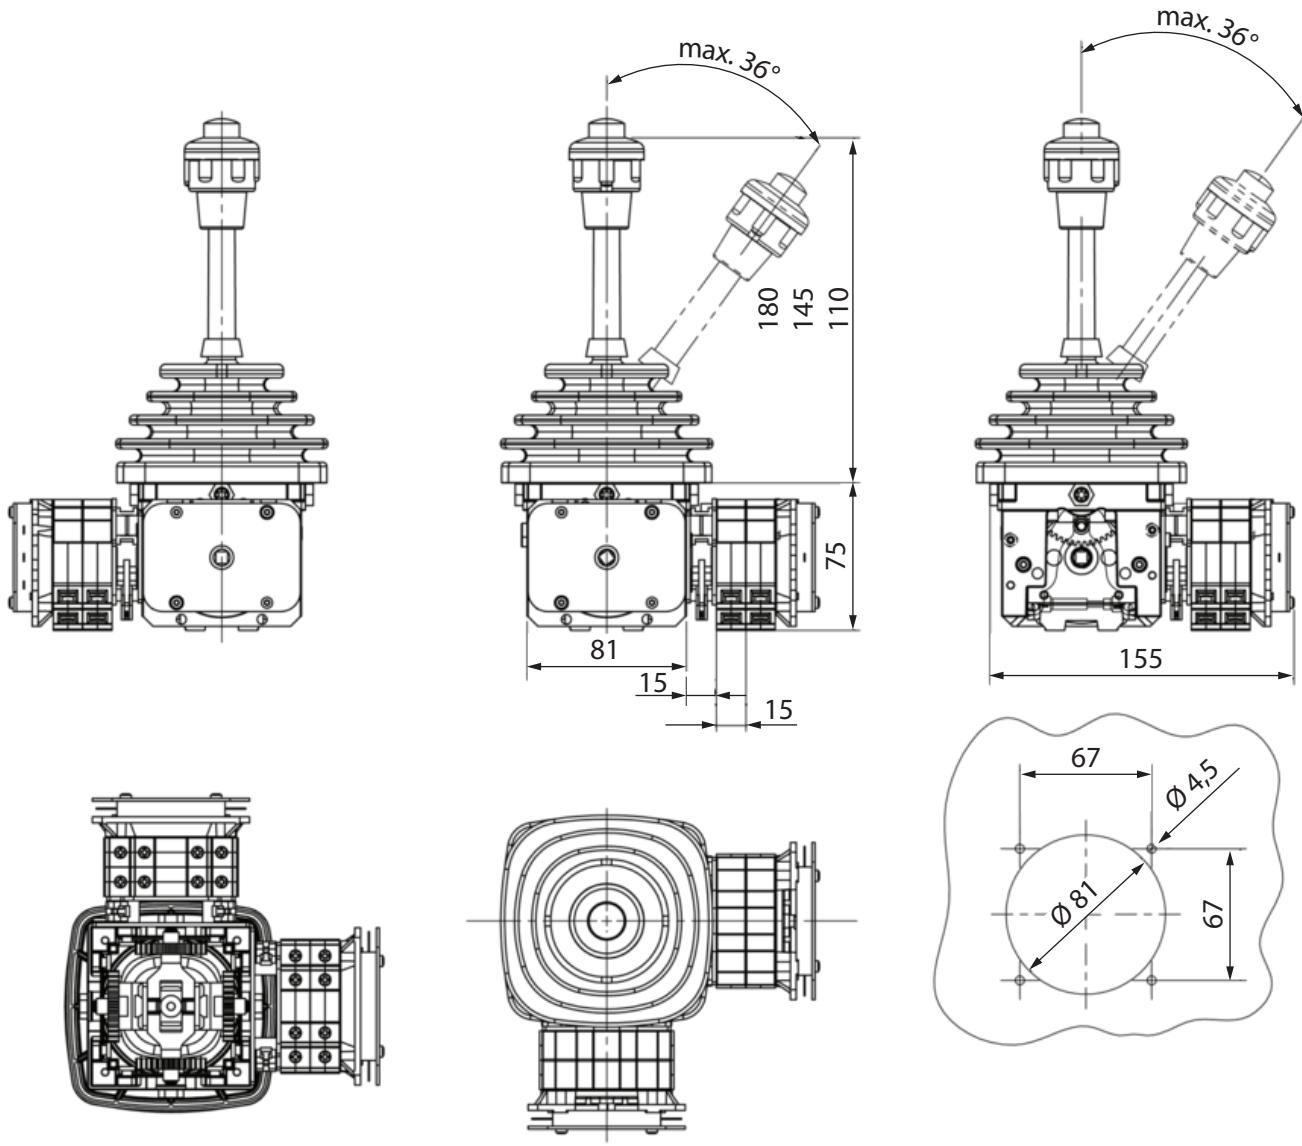
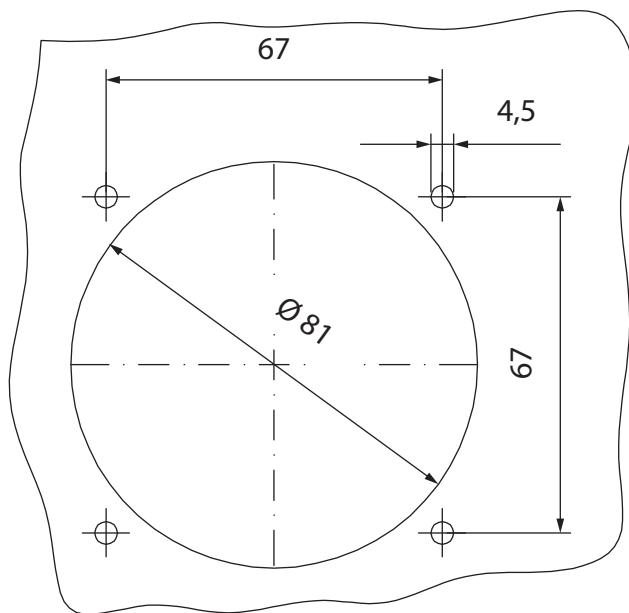

Figure 22. Joystick VNS0 – dimension drawing (dimensions in mm)
Figure 23. Installation opening and fastening bores (dimensions in mm)
1. Prepare the installation space, see *Figure 22 "Joystick VNS0 – dimension drawing (dimensions in mm)", page 68* and *Figure 23 "Installation opening and fastening bores (dimensions in mm)"*, page 69.
2. Check the deflection (see *Figure 22 "Joystick VNS0 – dimension drawing (dimensions in mm)", page 68*) and the spring return of the joystick VNS0/NNS0.